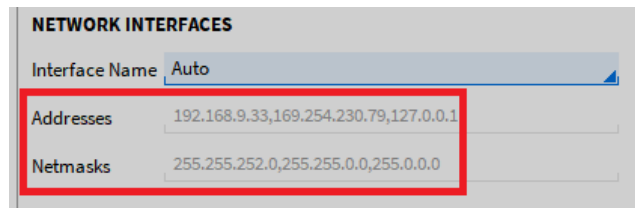

Figure 2-13: IP addresses of connected TRIONet™s
- The IP-address of the adapter is shown in the field below (see Figure 2-13)